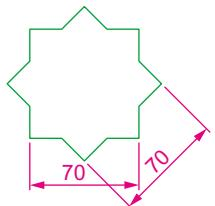

Fig. 14.10 Example – 3D Array – the star spline
1. Construct the star-shaped spline on a layer colour green (Fig. 14.10) and extrude it to a height of **20**.